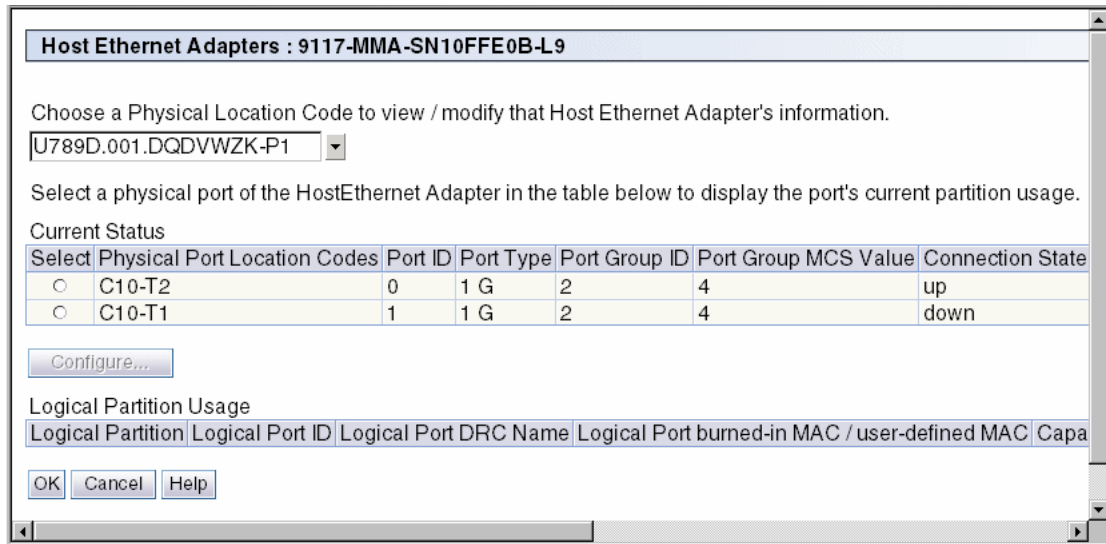

Figure 7-1 Host Ethernet Adapter configuration
1. In the HMC workplace window, select **Systems Management** → **Servers** then select the name of the server. Select **Hardware** → **Adapters** → **Host Ethernet** to open the window shown in Figure 7-1.